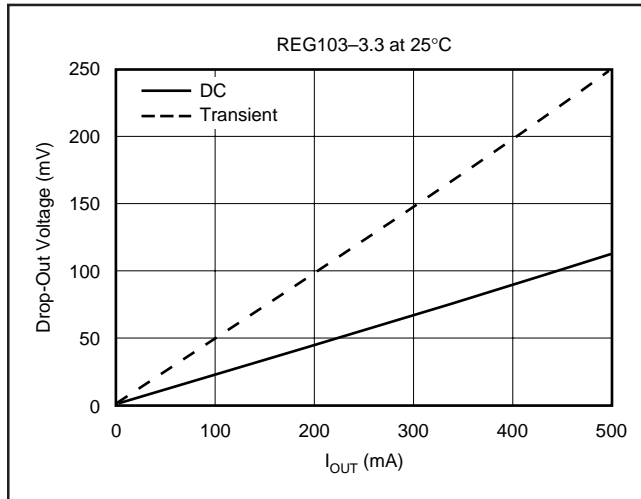

FIGURE 10. Transient and DC Dropout.
The REG103 uses an N-channel DMOS as the “pass” element. When the input voltage is within a few hundred millivolts of the output voltage, the DMOS device behaves like a resistor. Therefore, for low values of V_{IN} to V_{OUT} , the regulator’s input-to-output resistance is the $R_{ds(ON)}$ of the DMOS pass element (typically 230mΩ). For static (DC) loads, the REG103 will typically maintain regulation down to V_{IN} to V_{OUT} voltage drop of 115mV at full-rated output current. In Figure 10, the bottom line (DC dropout) shows the minimum V_{IN} to V_{OUT} voltage drop required to prevent drop-out under DC load conditions.
For large step changes in load current, the REG103 requires a larger voltage drop across it to avoid degraded transient response. The boundary of this “transient drop-out” region is shown as the top line in Figure 10. Values of V_{IN} to V_{OUT} voltage drop above this line insure normal transient response.